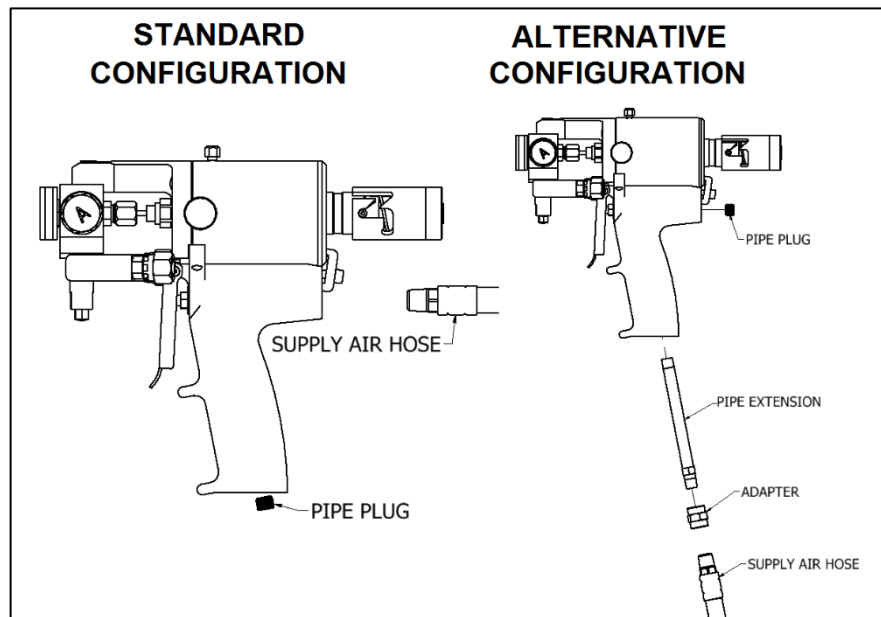

Figure 8: Air Inlet Configuration Options
6. Connect the **Air Hose** to the **Air Inlet** at the back of the **Gun**, and then connect the **Air Hose** to the **Supply Air Hose**. Alternatively, remove the **Pipe Plug** from inside the **Gun Handle** and replace with the supplied **Pipe Extension**. Connect the **Air Hose** and **Adapter** to the **Pipe Extension**, and then connect the **Air Hose** to the **Supply Air Hose** (see Figure 8).